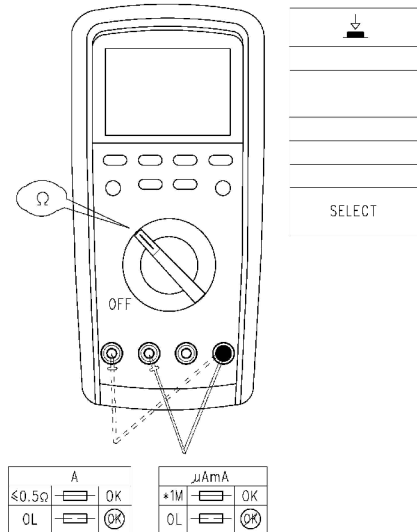

Figure 4b
- \*. By virtue of function of resistance measuring, it is allowed to make self-check on built-in fuse. Refer to (Figure 4b).